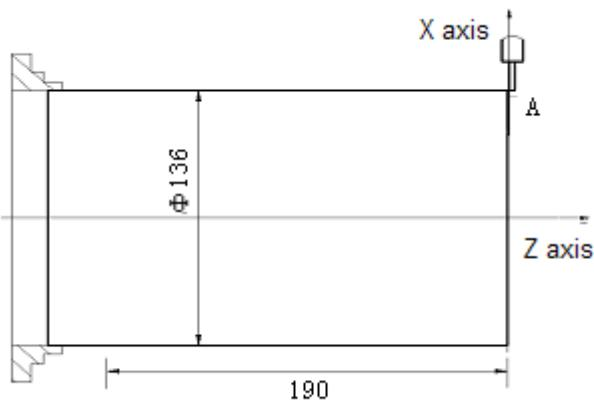

Fig.10-9
(9) Move the tool into the safe position, and execute the 3rd tool by pressing the tool change key in Manual mode;
(10) Start the spindle and move the tool into the tool setting position, which is shown as Fig. 10-9, like point A: